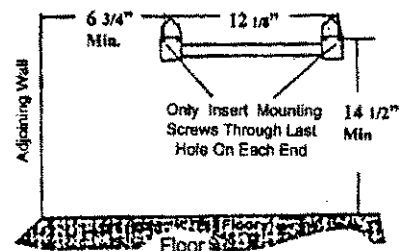

Figure 8 - mounting bracket clearances
**⚠ WARNING:** Maintain minimum clearances shown in Figure 8. If you can, provide greater clearances from floor and joining wall.